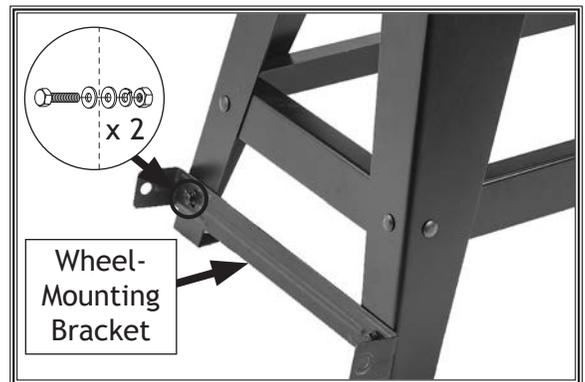

Figure 8. Bracket attached to legs.
6. Attach wheel-mounting bracket to bottom of two legs with (2) M6-1 x 12 hex bolts, (4) 6mm flat washers, (2) 6mm lock washers, and (2) M6-1 hex nuts, as shown in **Figure 8**.